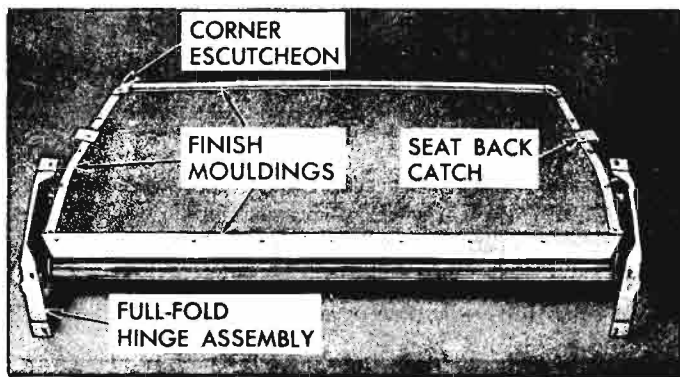

Fig. 10-99—Folding Rear Seat Back Moulding Installation
2. Remove screws securing corner escutcheons and remove escutcheons. See Figure 10-99.